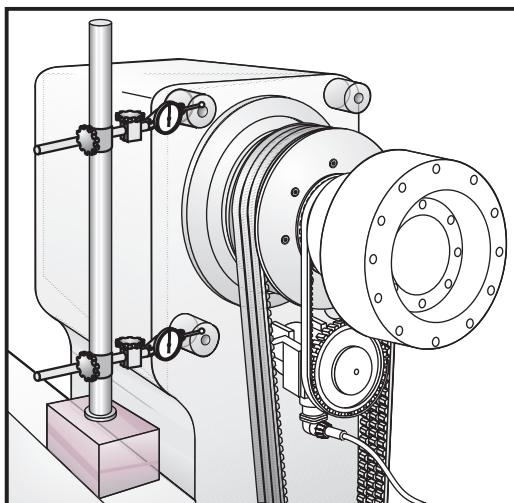

Figure 3.2-6. Indicator setup.
6. Once the spindle head assembly is level, setup dual indicators on the large magnetic base and place on the base casting to the rear. Indicate them at the machined bosses to maintain the spindle head level. See Figure 3.2-6.